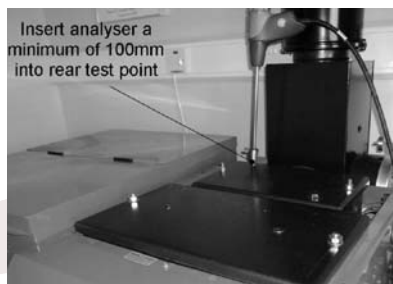

Figure 10-17: Combustion test point
- Remove the screw from the combustion test point, located at the left rear corner of the rear access cover (on the secondary heat exchanger). Refer to Figure 10-17.